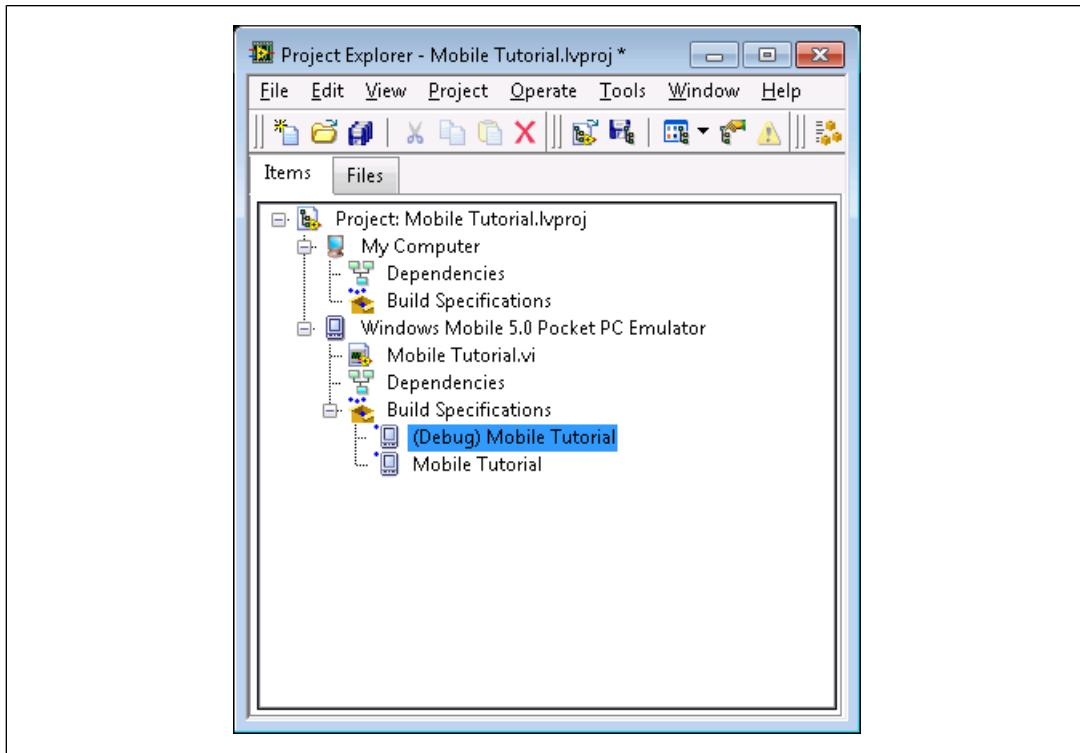

Figure 8. Two Build Specifications in the Project Explorer Window
7. Click the **OK** button. The build specification you just created appears in the **Project Explorer** window, as shown in Figure 8.